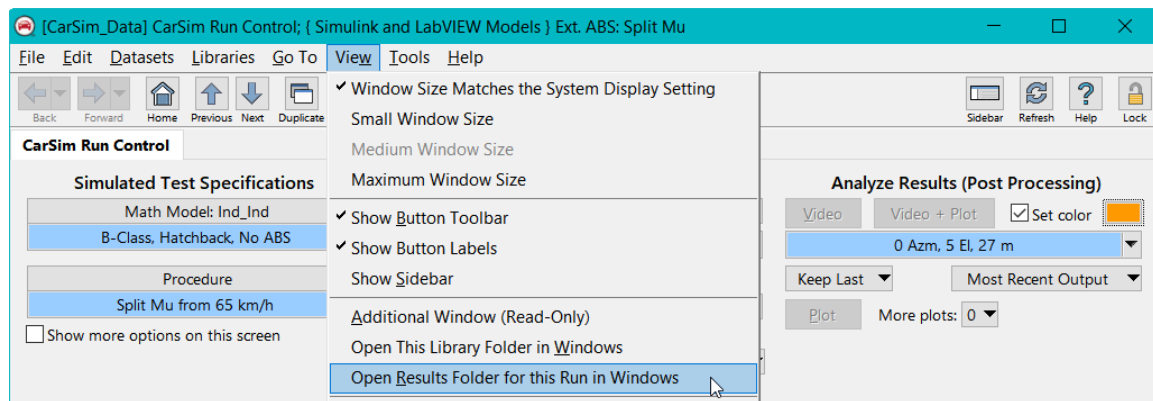

Figure 11. Open Results Folder for this Run.
1. Open the results folder from the Browser menu **View > Open Results Folder for this Run in Windows** (Figure 11).